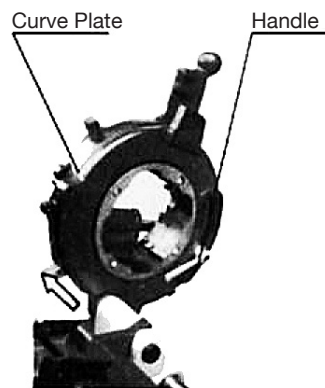

Fig. 1
- b Remove the die head from the sledge (Fig. 1). Loosen the nut of the handle and turn the curve plate around to the maximal position of the scale.